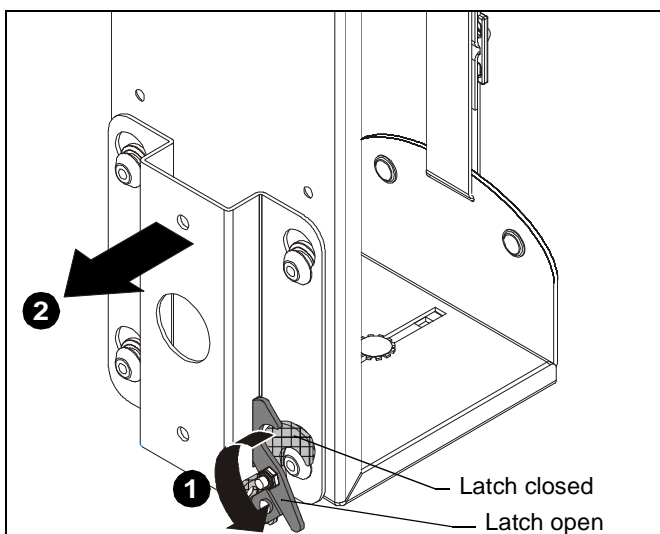

Figure 2
2. Release bracket from mount by moving the flag to the open position. (See Figure 2)
3. Remove bracket from mounting buttons on back of mount. (See Figure 2)
1. Ensure bracket flag is in the open position. (See Figure 2)